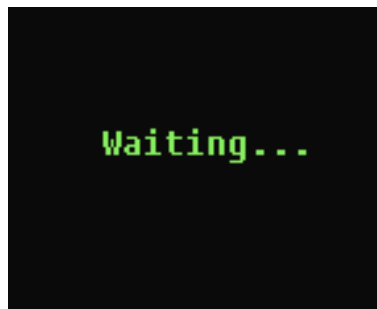

Figure 13.
- d. When the stored data is being uploaded ,the screen displays as figure 13.